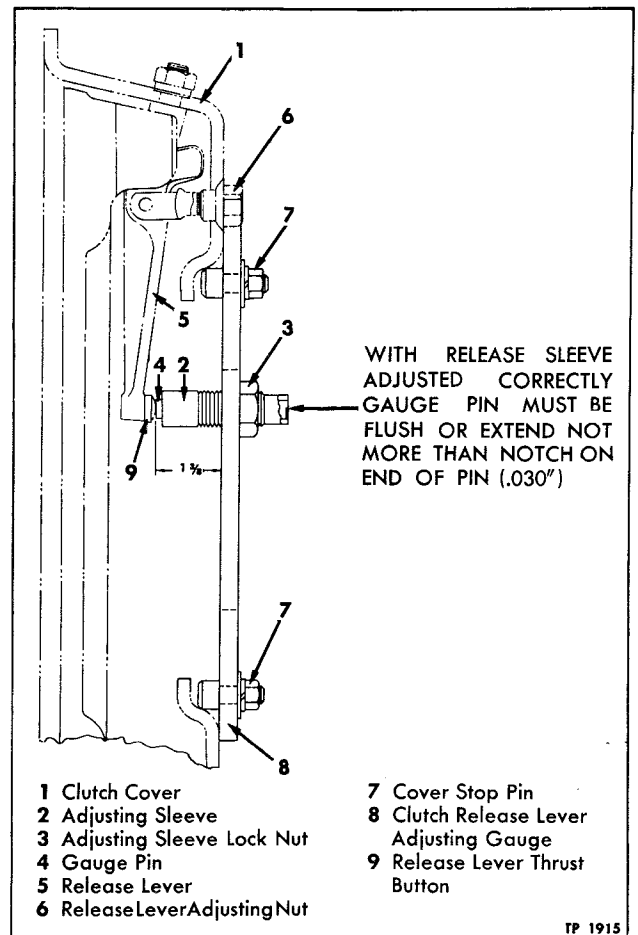

Figure 6—Clutch Release Lever Adjusting Tool
A closer adjustment may be obtained by using an adjusting tool (CS-1420) such as illustrated in figure 6. "Specifications" at end of this section apply when new driven disc and facings assembly of specified thickness is used.
a. With gauge pin flush with outer end of sleeve, thread adjusting sleeve in or out as necessary to obtain the dimension as shown in figure 6. Lock sleeve in position with lock nut.